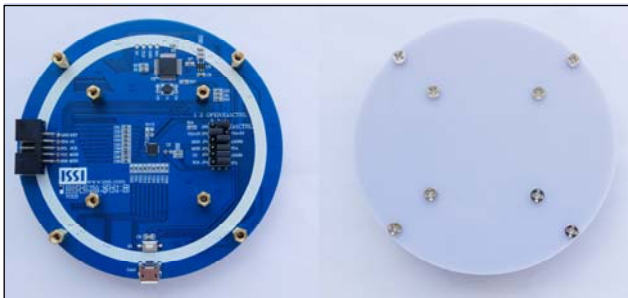

Figure 1: Photo of IS31FL3746A Evaluation Board
*Note 1: The value of these resistors on the evaluation board is 20Ω. For PVCC=5V and red LED application, prefer 51Ω for these resistors as shown in datasheet Figure 1.*